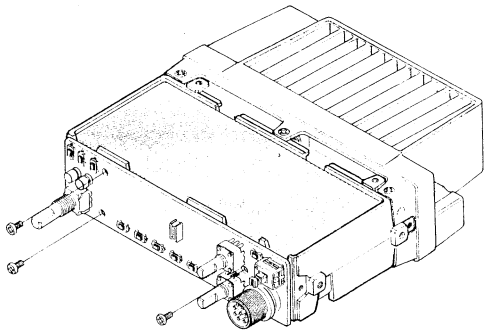

Figure 8.
- ☐ With the Front Panel removed and Control Unit exposed, remove the three screws affixing the Control Unit PCB to the front of the transceiver chassis, then remove the Control Unit using both hands to gently evenly pull it away from the front of the Main Unit PCB and transceiver chassis. Note how jacks J2001 & J2002 on the rear of the Control Unit mate with the corresponding connectors on the Main Unit, use these as alignment guides when re-installing the Control Unit PCB (Figure 8).